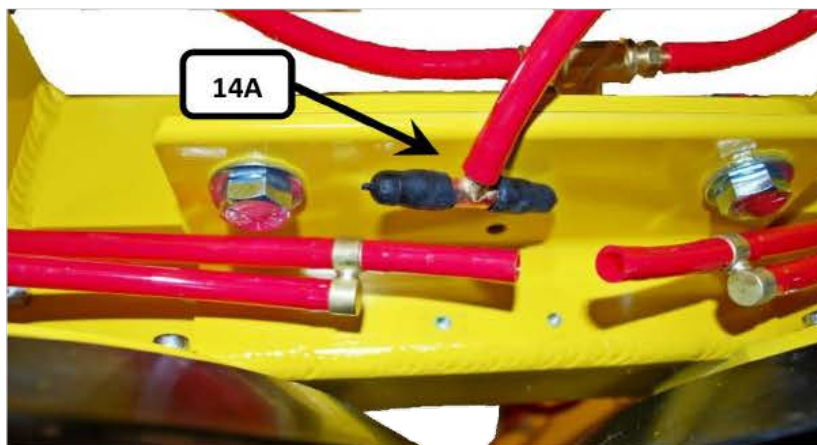

FIGURE 14
38) Remove the hose clips that secure the pad arm hose tee, **14A**, to the pad arm. Remove the two hoses from the pad arm hose tee that connect to the vacuum pad hoses and cap the barbed fittings. The center barb of the tee will still be connected to the hose connected to the ball valve. See **FIGURE 14**.